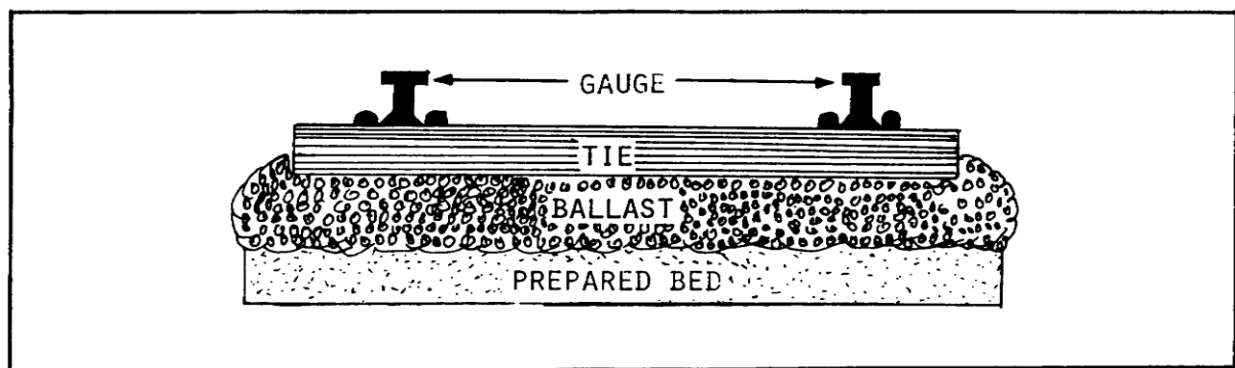

Figure 1-2. Right-of-way.
b. The railway right-of-way comprises the rails, ties, ballast, and prepared bed upon which they lie (Figure 1-2). The shade characteristics of the right of way on aerial photos generally appears to be medium to dark, caused by ashes, coal, or oil that has been deposited by the engines.
5. Holding yards. Holding yards are normally found close to the repair facilities; these are used to hold surplus cars and coaches until they are needed. These yards are normally found only at very large terminals (Figure 1-2).
6. Freight yards. Freight yards are found adjacent to the freight station of a large industry such as a large POL refinery. These yards are used to hold cars until they can be loaded or unloaded. In some instances, the cars may be loaded and/or unloaded directly onto trucks without the use of platforms (Figure 1-2).